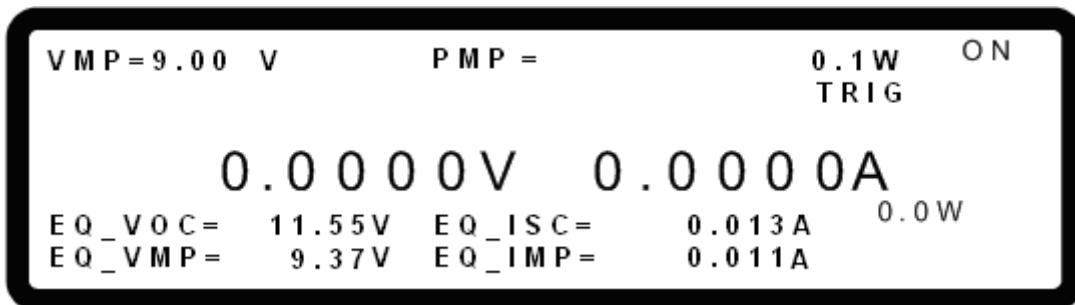

Figure 3-172
10. Press “**ON/OFF**” again to start program execution. The SANDIA_MODE main screen will display as shown in Figure 3-172. To quit, press “**EXIT**” to return to the MAIN PAGE.
Figure 3-172 shows the screen during SANDIA_MODE output. The EQ_VOC, EQ_VMP, EQ_ISC and EQ_IMP are the actual operating points that are calculated based on the settings of VMP and PMP using the built-in formula.